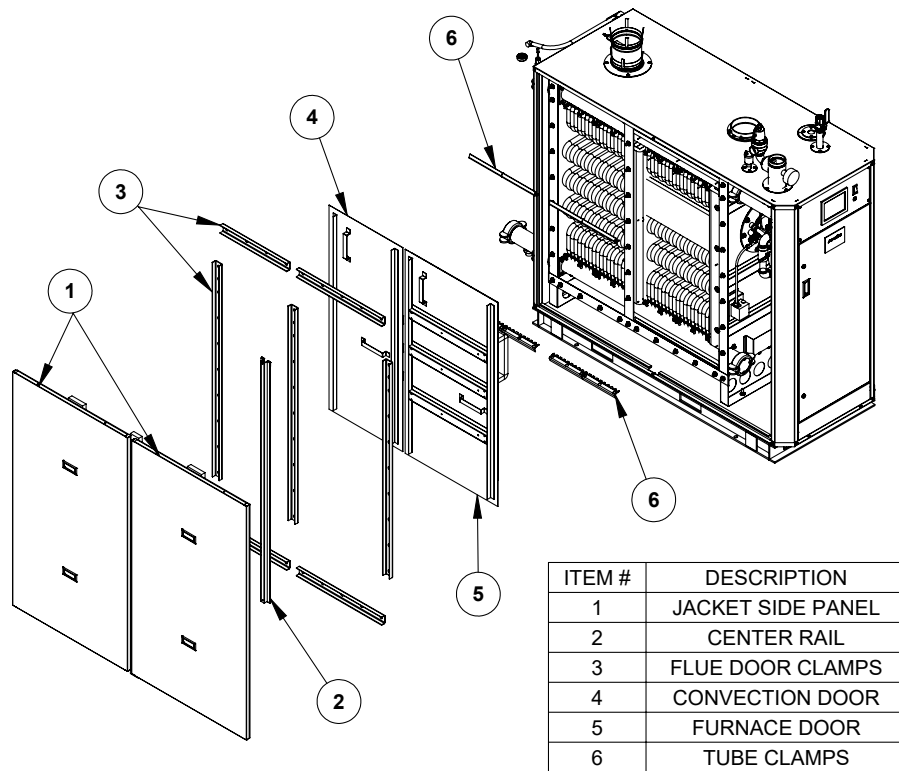
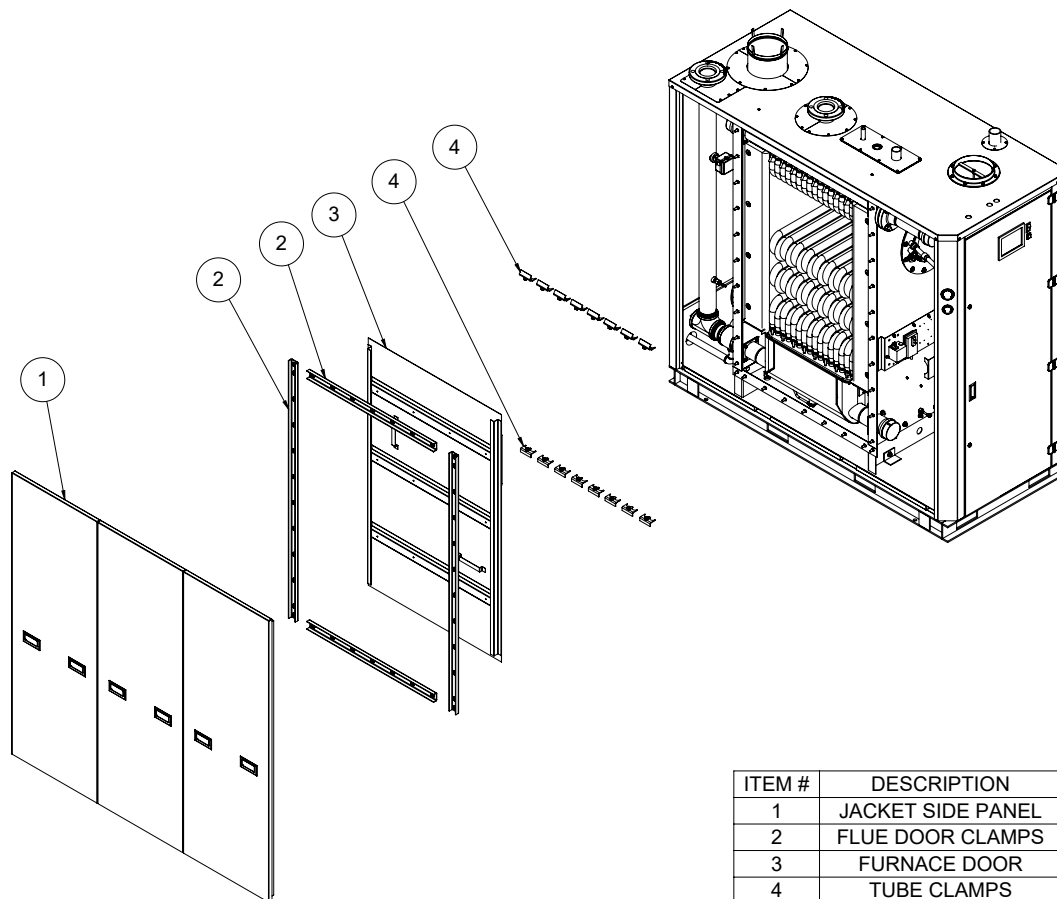
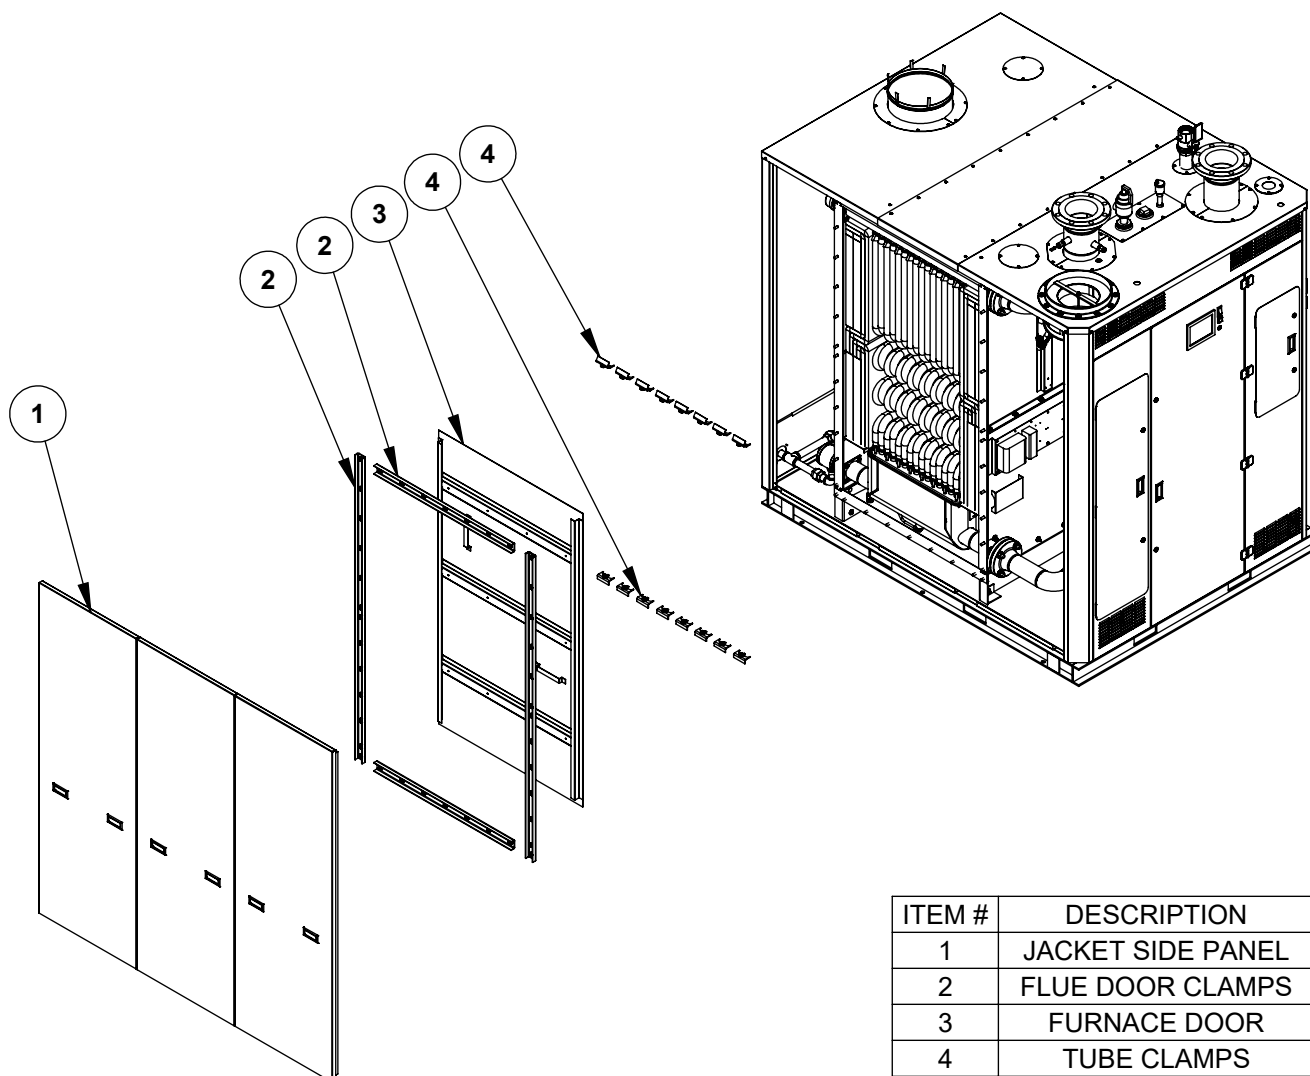

Figure 17: Panel Removal in Preparation for Tube Inspection - Arctic 1000
Figure 18: Panel Removal in Preparation for Tube Inspection - Arctic 1500 - Arctic 3000
Figure 19: Panel Removal in Preparation for Tube Inspection - Arctic 3000 - Arctic 6000
- d. Remove the boiler's left side jacket panels and flue collector access panels as shown in Figure 17, Figure 18, and Figure 19.